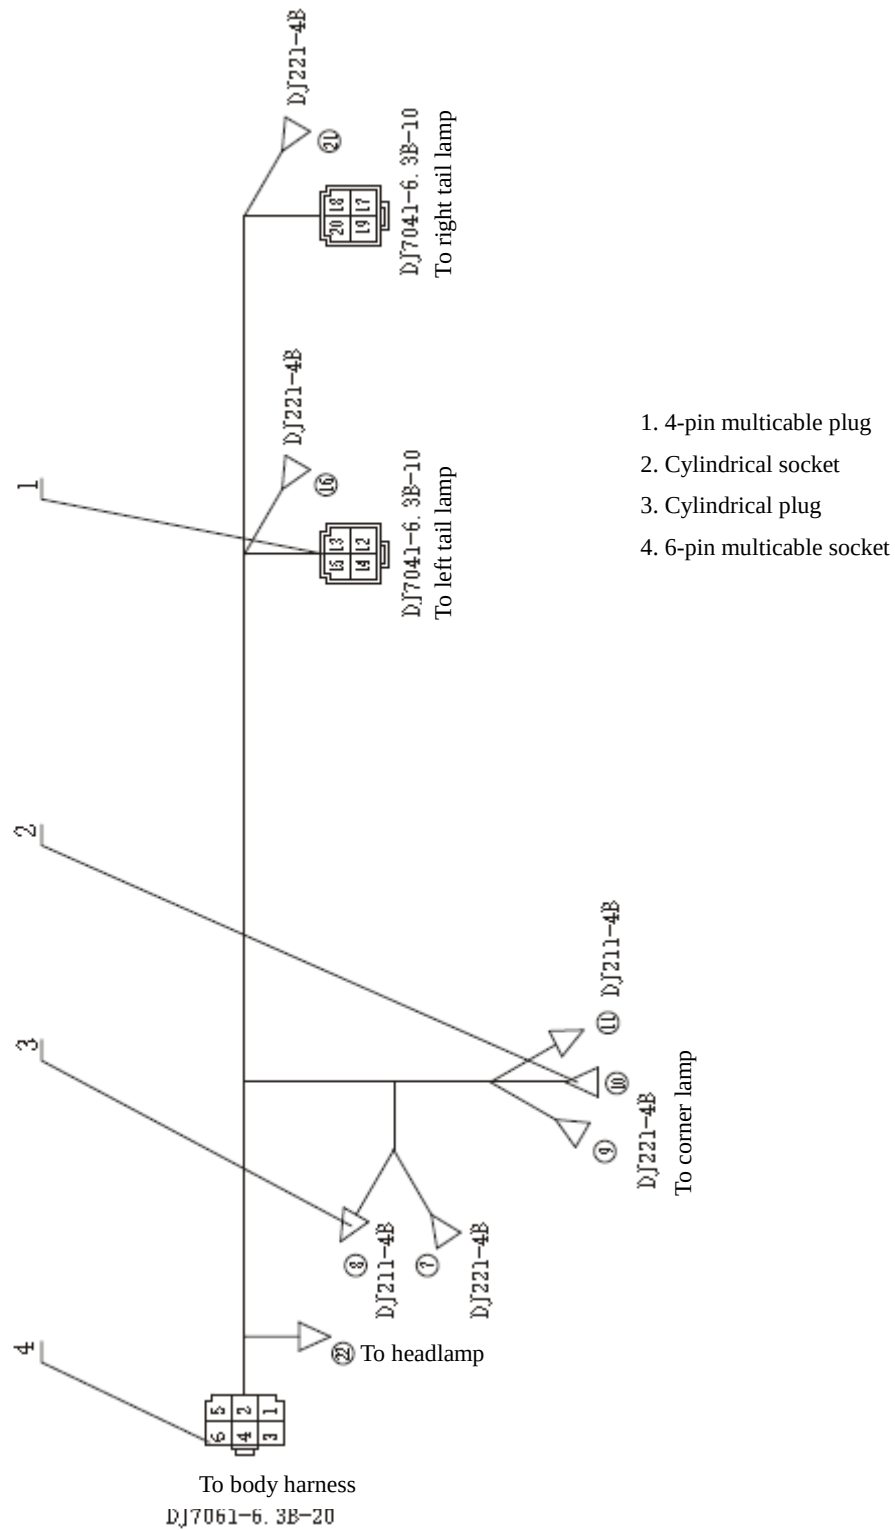

Fig. 4-2 Overhead Guard Harness (Left)
1. Overhead guard harness (left) Fig. 4-2